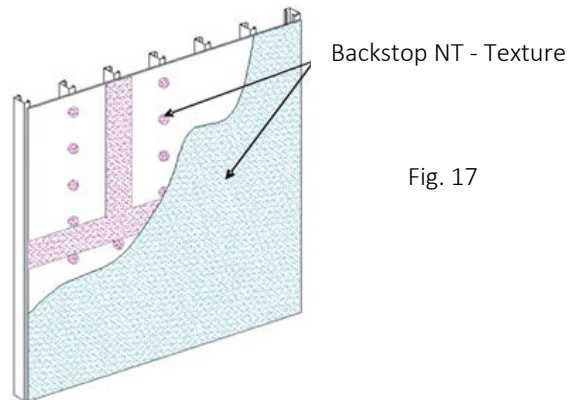

Fig. 17
- c) Use a coarse, open-cell foam roller cover with a 3/8 in (9.5 mm) foam nap (FoamPRO #58 roller). Apply a uniform, continuous film of Backstop NT – Texture over the entire surface of the sheathing, concrete or masonry, including the previously treated areas – Figure 17.